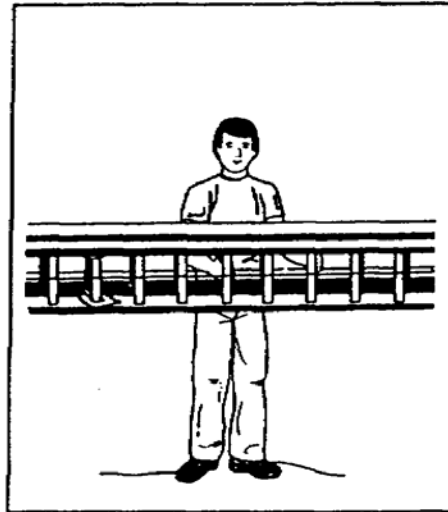

Figure 4-7. Carrying a ladder
(4) Carrying a ladder. When carrying a ladder, use your arms to stabilize it then carry the ladder horizontally at waist-height (Figure 4-7). A long ladder may require two people to carry it.